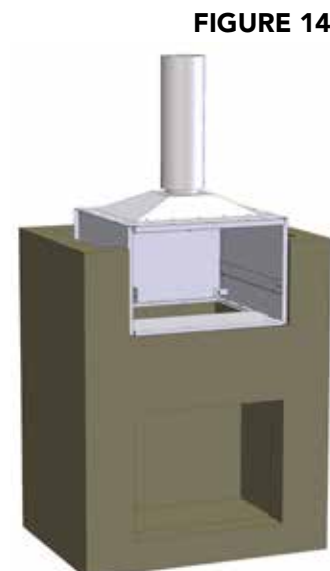

FIGURE 14
5. Connect the installer-supplied chimney to the chimney collar (Figure 14). Follow the chimney manufacturer's instructions and all local codes for proper chimney length, clearances and installation methods. A 6-inch inner diameter double-wall insulated grease duct is strongly recommended. The duct should be topped with an appropriate rain cap.